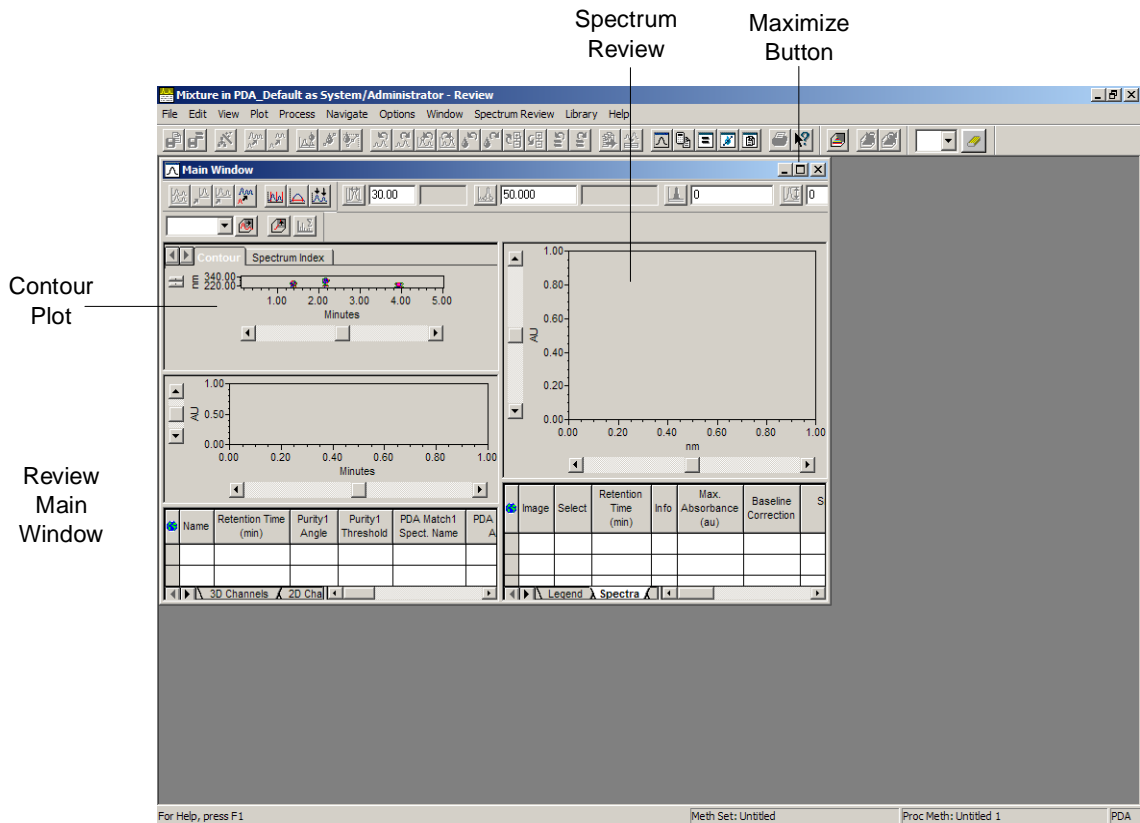

Figure 2-4 Review with PDA Data, no Chromatogram Extracted
- If the Review window is not maximized, click  (maximize) (Figure 2-4). Maximize both the main window and the daughter window.